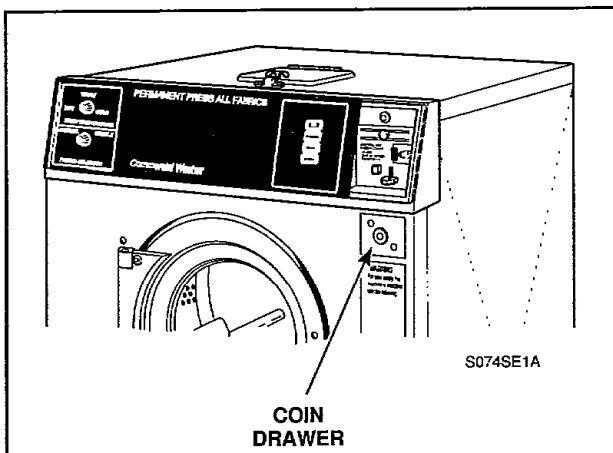

Figure 15
- Unlock and remove coin drawer, *Figure 15*.
- h. **METERED MODELS** — Unlock and remove coin drawer, *Figure 15*.